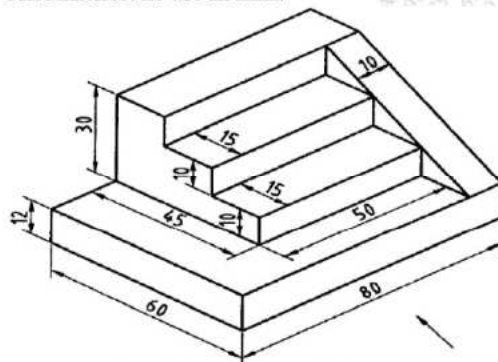

Figure:1
- A) Draw the elevation, top view and side view of the object shown in figure 1. All dimensions are in mm.